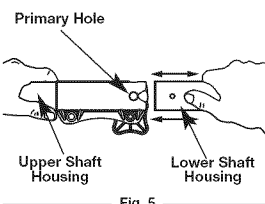

Fig. 5
- While firmly holding the upper shaft housing, pull the lower shaft housing straight out of the EZ-Link™ coupler (Fig. 5).
- While firmly holding the add-on, push it straight into the EZ-Link™ coupler (Fig. 5).